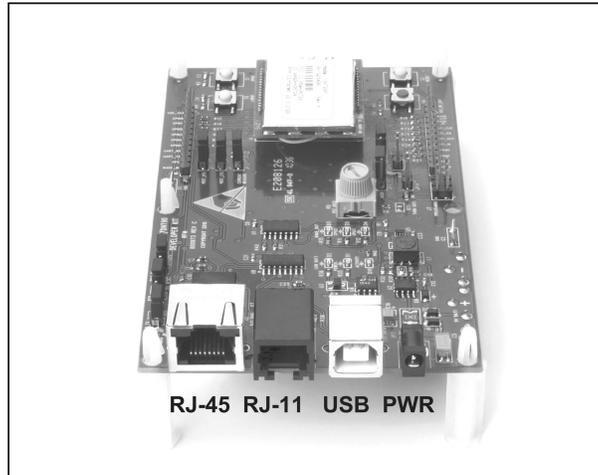

Figure 3
2. As shown in Figure 3, there are three serial connectors and a power connector on the end of each interface board. The RJ-45 connector provides an RS232 interface to the DNT24 main serial port. The USB connector provides an optional interface to the radio's main serial port.